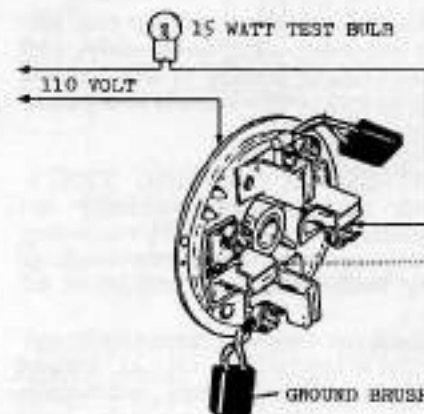

Fig. 113—Check both insulated brush holders as outlined in paragraph 205.
**208. INSULATED BRUSH BOX TEST.** Two of the brush boxes on brush holder assembly must be insulated from the assembly itself. Connect a 110 volt, 15 watt AC current test light as shown in Fig. 113 and touch test light lead to each insulated brush holder in turn. If test light comes on, insulation between brush box and brush holder assembly is faulty and brush holder assembly must be renewed.